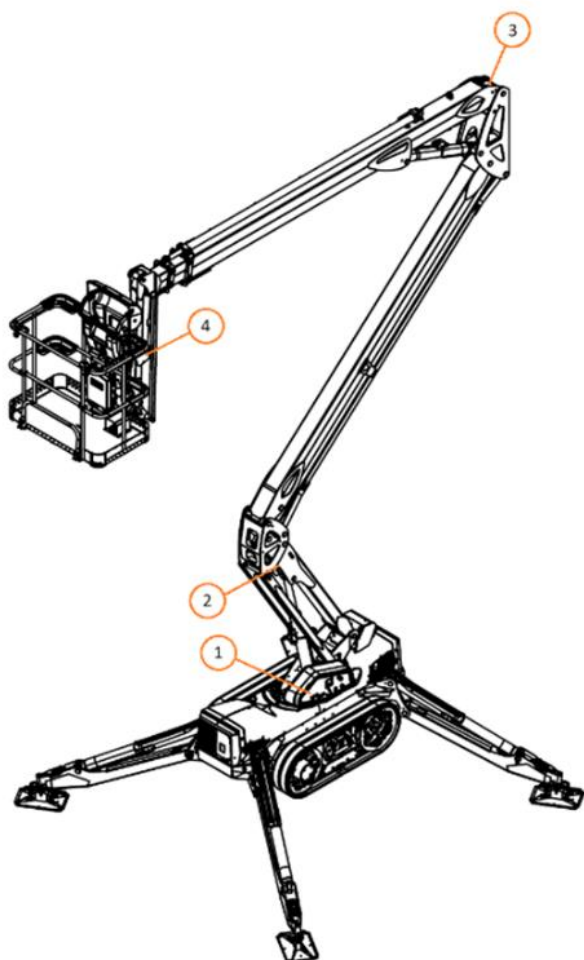

Figure 38. Machine's position sensors
There are four (4) position sensors on the access platform. One of the sensors is inside the lower control panel which measures the inclination of the chassis (figure 38 (1)). Three other sensors are located in the boom structure. One in the lower boom at the upper end of the cylinder (figure 38 (2)), one inside the upper boom under the service hatch (figure 38 (3)) and one in the jib boom at the lower end of the cylinder underneath the protective cover (figure 38 (4)).